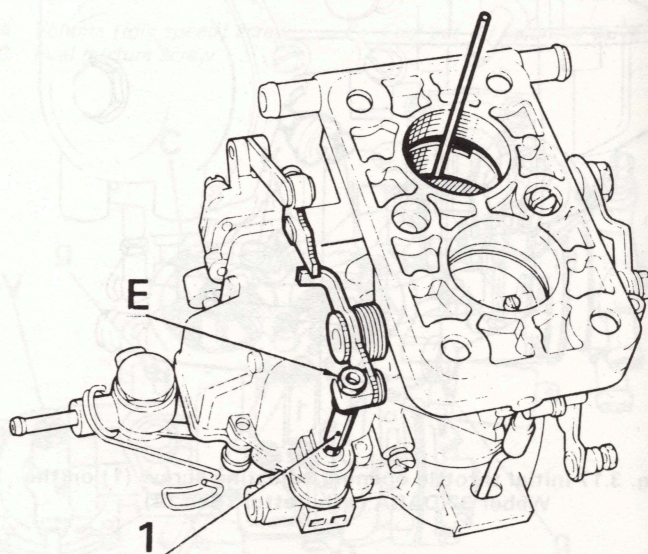

Fig. 3.22 Adjusting defuming valve (Sec 14)
22 To adjust, hold the choke flap open and depress the defuming valve lever (1 – Fig. 3.22). Using a twist drill, measure the throttle flap opening. If it is not as specified (see Specifications) turn the nut (E).